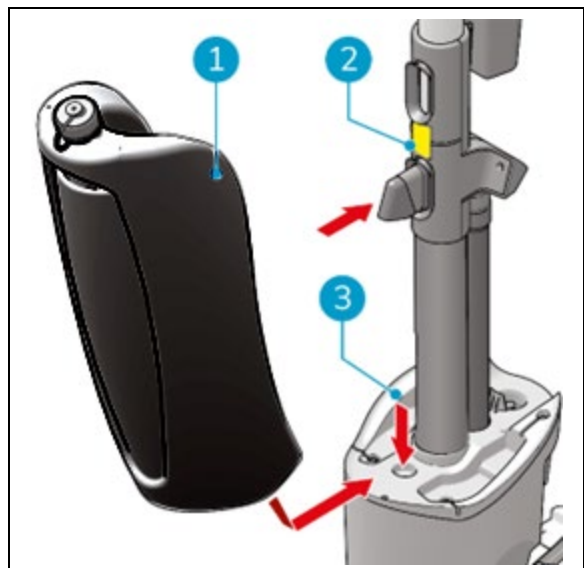

Figure 12
2. Put the bottom of the recovery tank (Figure 12, pos 1 and pos 3) on the front of the SAFE-T-IMOP.
3. Push the top of the tank into place until you hear a 'click' sound, the magnet (Figure 12, pos 2) will lock the recovery tank into place.